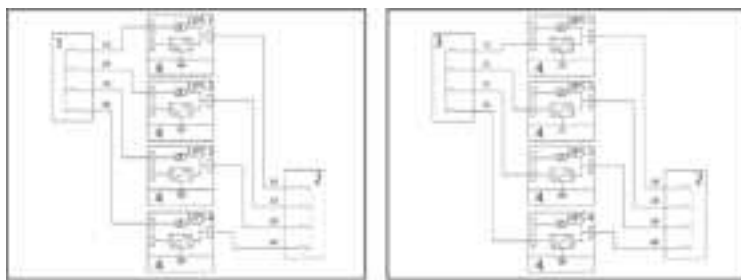

Figure 27. Parallel UPS system connections
2. For installing the parallel system, see Figure 27.
Total length: $1A + 1B = 2A + 2B = 3A + 3B = 4A + 4B$ (see Figure 27)